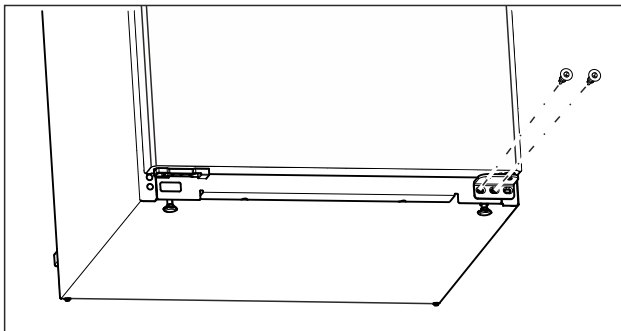

Fig. 15
- ▶ Unscrew the middle screw on the lower swap bearing block with a Torx 20 screwdriver. (see Fig. 15)
- ▶ Unscrew the inner screw on the lower swap bearing block with a Torx 20 screwdriver. (see Fig. 15)